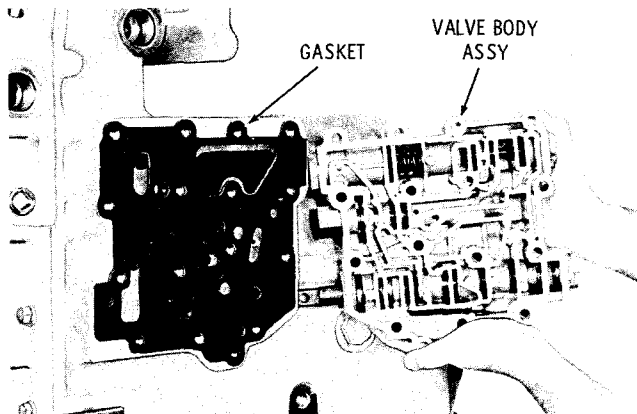

Fig. 5-6. Removing control valve body
(1) Remove 16 bolts and lockwashers that retain the control valve body assembly. Remove the control valve body assembly and gasket (fig. 5-6). Refer to paragraph 6-4 for control valve body assembly rebuild.